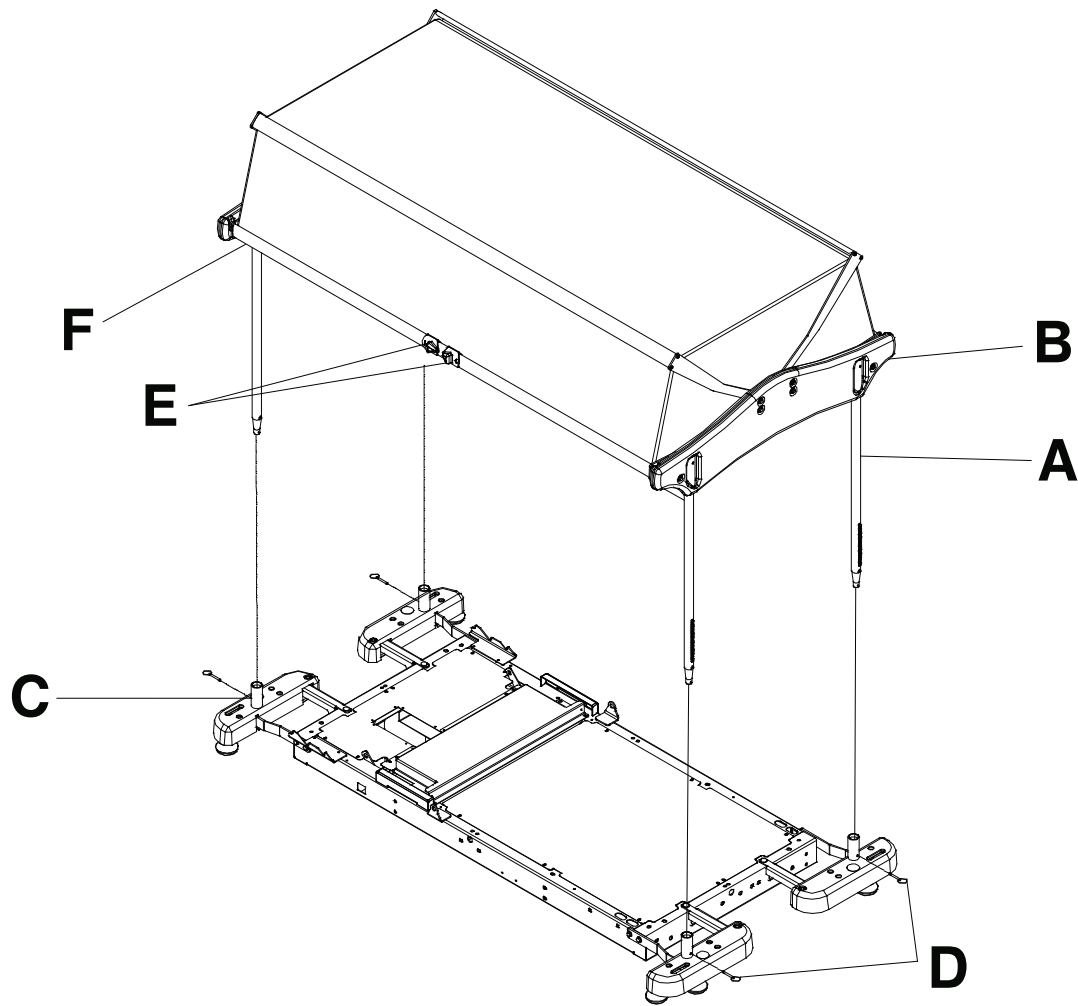

Figure 17 – Retracting protective top
1. Press the lock pin located on the top section of each post (A). Insert the post into the slot of the plastic structure (B) (Figure 17). Repeat for the other posts.
2. Install the four posts in the accessory bracket sockets (C) (Figure 17).
3. Using a 9/16" combination wrench, lock the posts in the accessory bracket sockets with the four hitch pins (D) (Figure 17).
1. To open the protective top, squeeze the two release knobs (E) and lift the lower rail (F) to the desired position (Figure 17).
2. To close the protective top, grasp the lower rail (F) and lower it until it locks into position (Figure 17).
**Note** - Make sure that the lower rail spring plungers are secure in the slot of the plastic structures (B).